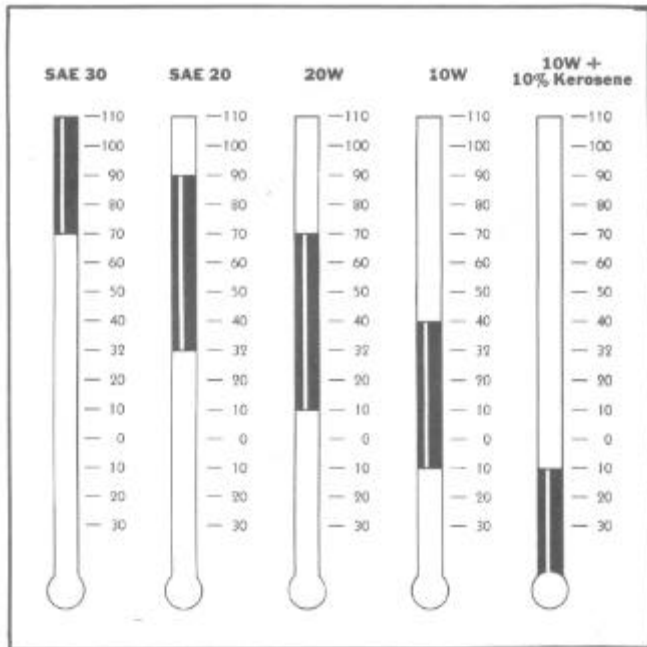

Figure 2 Engine Oil Recommendations
The high speeds and long distances covered in the present day automobile makes it imperative that a great deal of attention be given to the proper lubricants to use and to guide you in their selection we have given the detailed specifications in the following chart (Figure 2).
- In using this chart (Figure 2) do this: